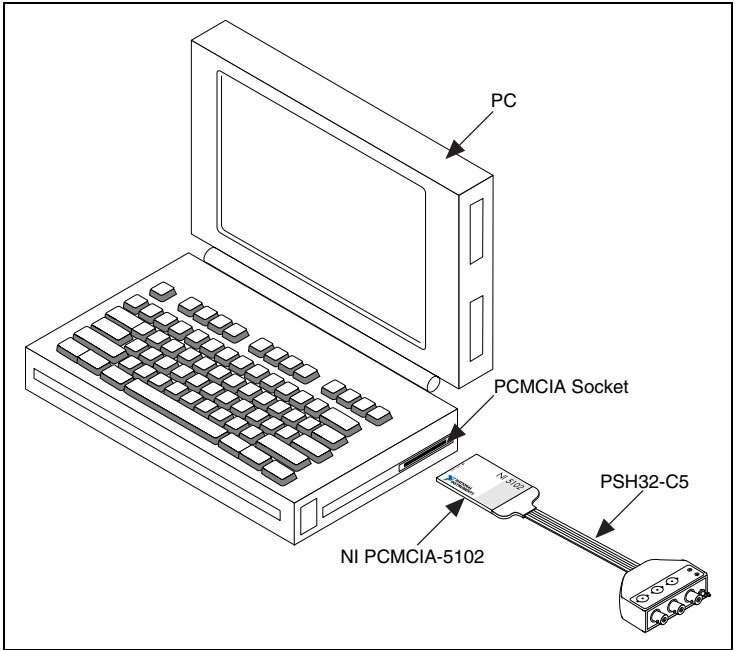

Figure 4. PCMCIA Installation
2. Install the digitizer as shown in Figure 4.